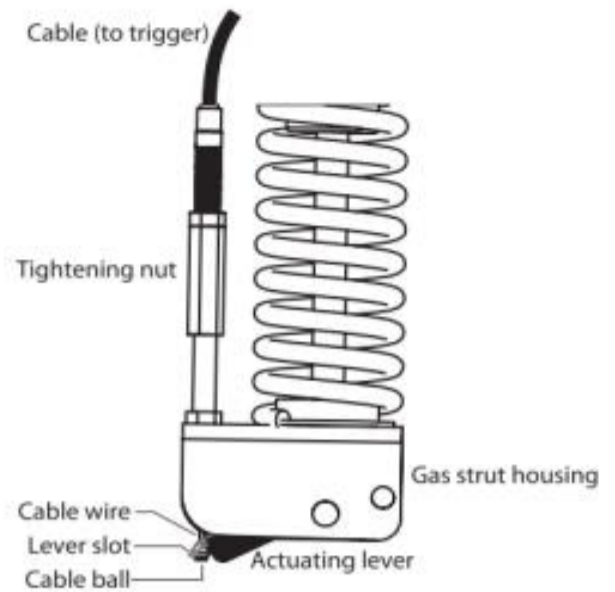

Figure 14.41: *Cable assembly*
1. If the chair does not tilt when trigger is pulled – the cable wire is too loose and needs to be tightened. To do so, remove the rubber sleeve above the gas strut housing that covers the adjustment nuts. Loosen the locknut first and turn the ‘tightening nut’ (shown in figure 14.41) so that more thread is showing above the nut. Check tilt function and if acceptable tighten locknut and refit rubber sleeve.